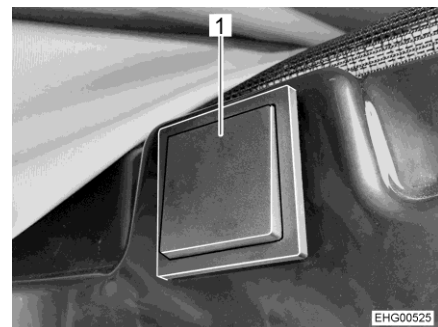

Fig. 48 Push button for electrical release
The push button for the electrical release (Fig. 48) is installed in the cut-out of the elevating roof.
- Press and hold the push button (Fig. 48,1) for least 2 seconds.